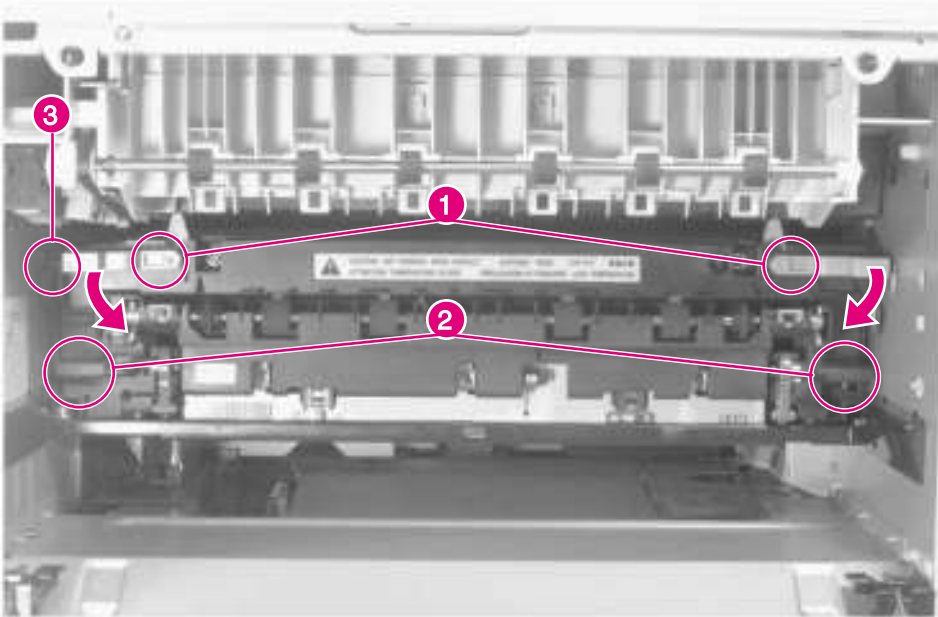

Figure 6-36 Fusing Assembly
- 2 Remove the Fusing Assembly (see figure 6-36 on page 306).
- 2 To release the Fusing Assembly rotate the upper levers down (figure 6-36, callout 1).
- 3 To remove the Fusing Assembly lift up on the finger handles (figure 6-36, callout 2) while pulling outward.
- 1** Make sure that the Fuser Output sensor flag (figure 6-36, callout 3) on the upper left corner of the Fusing Assembly rotates freely.